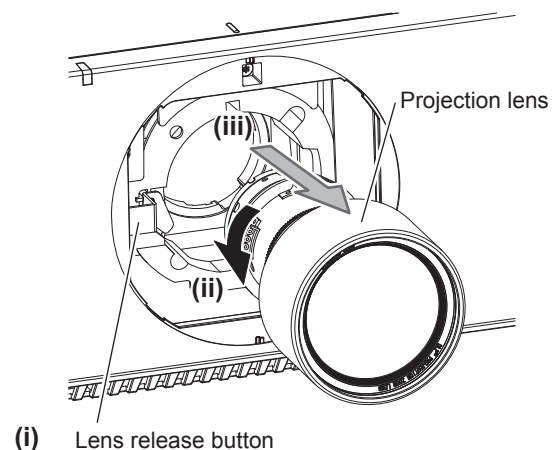

Fig. 2
- 2) While pressing the lens release button, turn the projection lens counterclockwise to the end and remove. (Fig. 2)